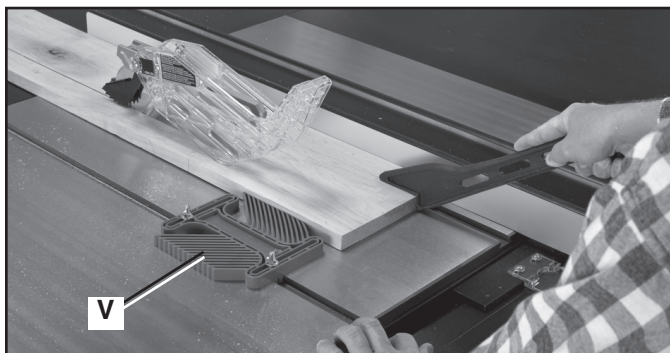

FIG. 76
If you are using the DELTA® Power Equipment Corporation accessory featherboard, the one on the table (V) Fig. 76 can be inserted and tightened against the appropriate miter slot. If you use a featherboard on top (not shown) it can be screwed into a board that is clamped to the fence. Be sure all featherboards are tightly fastened before operations.